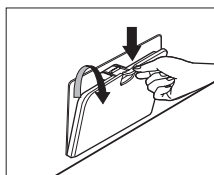

Fig. 11
- Open the service flap by using a finger (bottom right corner) (Fig. 11).